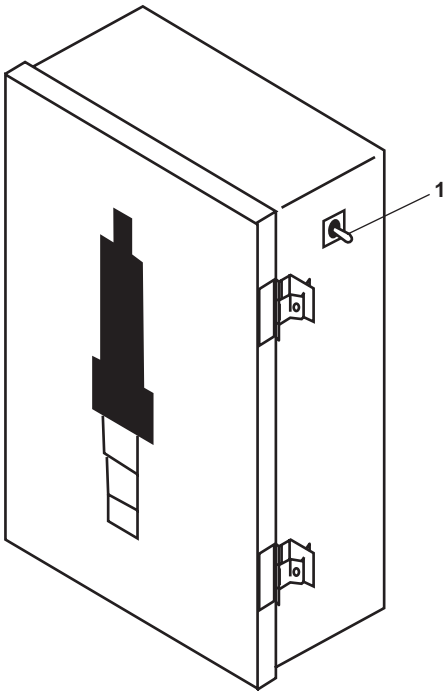

Figure 10. Preheater ON/OFF Switch
1. Position all preheater ON/OFF switches (figure 10, item 1) to ON.